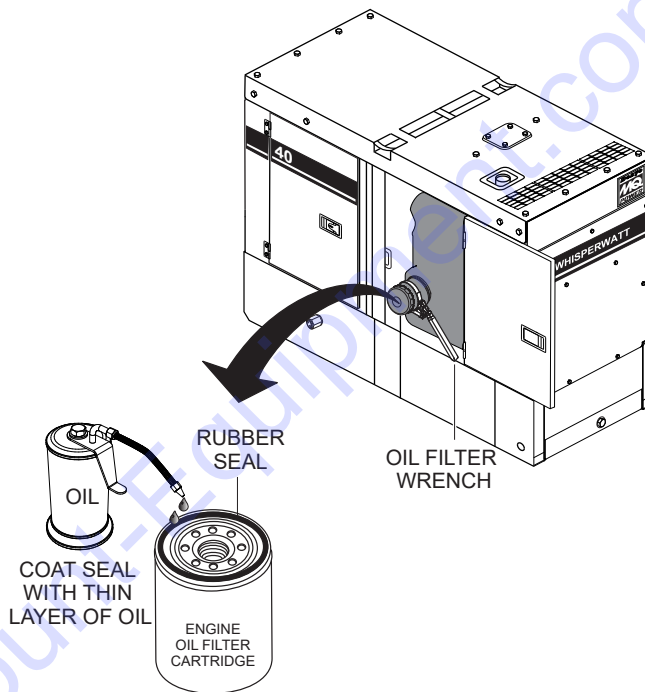

Figure 64. Oil Filter Removal
2. Using an oil filter wrench (Figure 64), remove the engine oil filter.
3. Coat the rubber seal (gasket) surface of the oil filter (Figure 64) with clean 15W-40 engine oil.